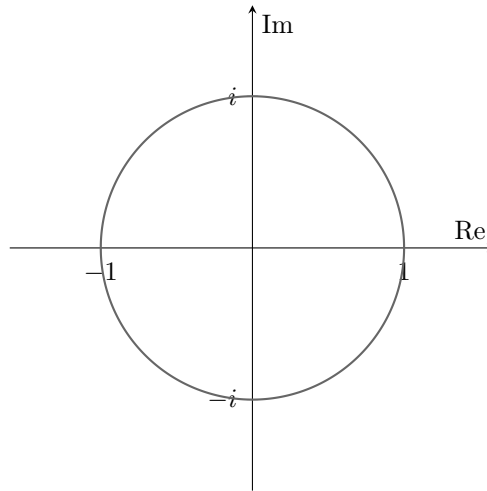

Figure 2: Problem 1: Plot the poles and zeros of the discrete-time system.
1. In figure 2 draw the poles (crosses) and zero (circle) for the discrete-time pulse-transfer function in (1).